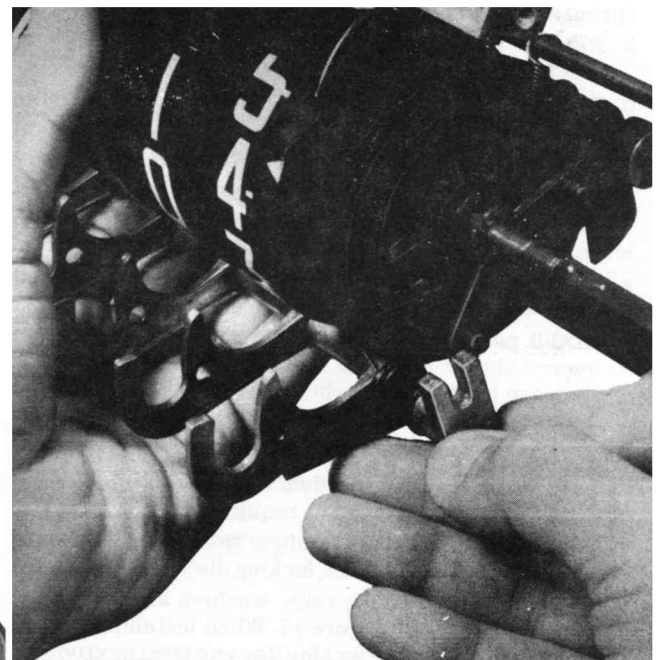

Figure 8. Reset Finger Group Removal.
- b. Disengage the reset fingers and no-back pawl from the wheels. See Figure 8. Remove the group. See Paragraph C, 2 for parts replacement.